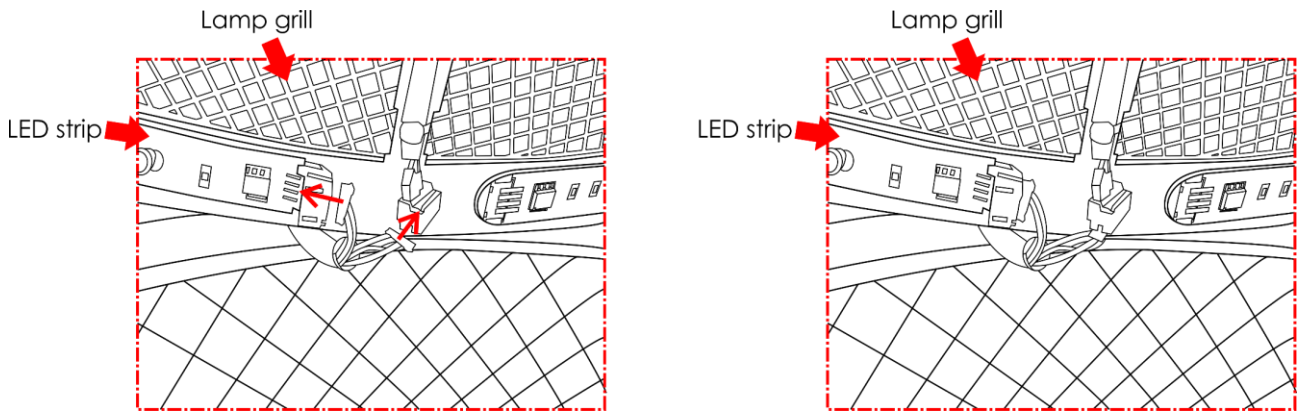

Fig. 10
- 08) Carefully connect the LED strip to the 2 connectors (Fig.10).